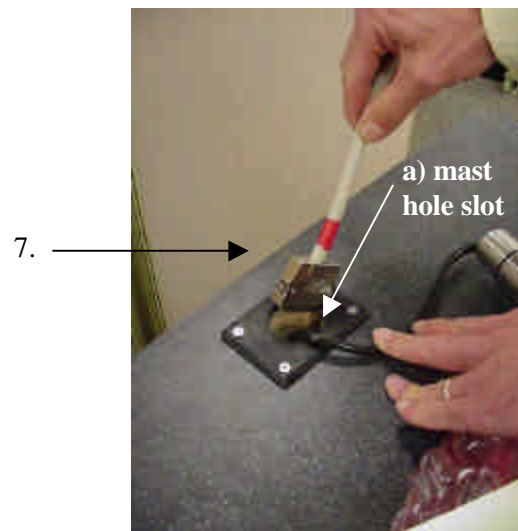

Figure 8: Inserting gray video cable connector into mast hole
7. Insert the gray video cable into the mast hole (**Figure 8**).